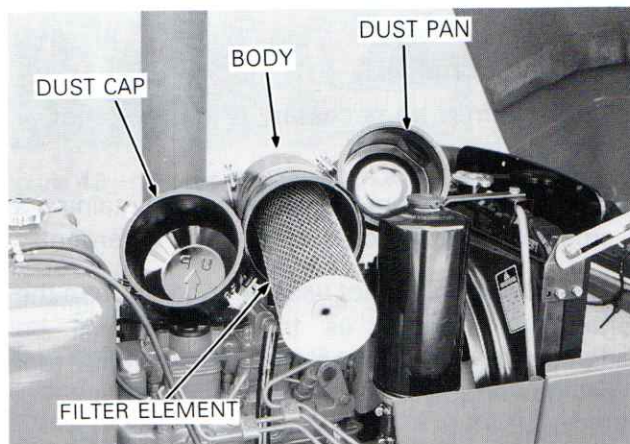

Figure 39 — Air Cleaner — Disassembled
Checking Dirt Level: Check the dirt level in the dust pan daily or every 10 hours, Figure 39.
1. Loosen the spring clamps and remove the dust cap, Figure 39.
2. Remove the seal and dust pan from the dust cap and clean the dust cap, seal and dust pan using a damp lint free cloth, Figure 39.